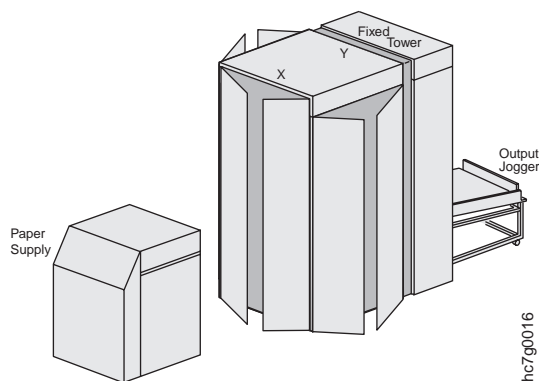

Figure 267. Right Side View of the InfoPrint Color 100
3. Move the paper supply away from the access doors located between the paper supply and the print tower, as shown in Figure 267.